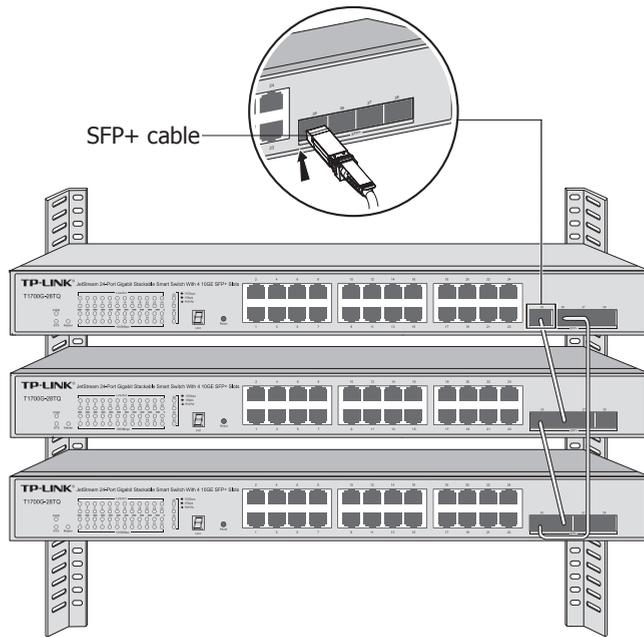

Figure 2-4 Stacking Using SFP+ Port
2. Power off the switches, and then use the 10G SFP+ cable (TXC432-CU1M/TXC432-CU3M of TP-LINK for example) to connect each switch to the next in a cascade. Finally, connect the last switch in the stack to the first switch, thus forming a ring topology as Figure 2-4 shows. The ring topology system provides redundancy and resiliency to the stack.